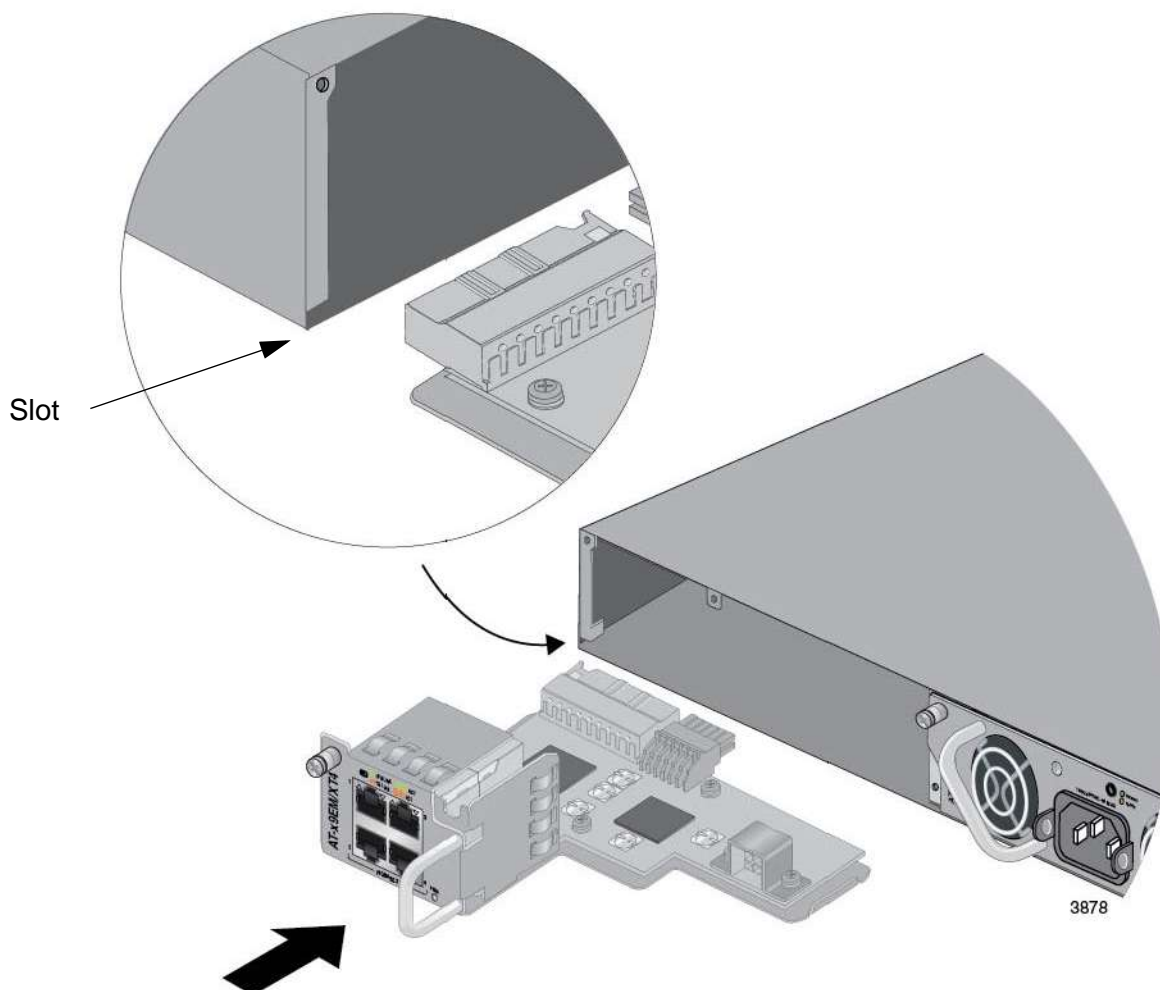

Figure 33. Aligning the AT-x9EM/XT4 Card in the Slot
8. Carefully align the AT-x9EM/XT4 Card in the slot and slide it into the switch. The left edge of the card fits into the slot in the bottom corner of the switch. Refer to Figure 33.